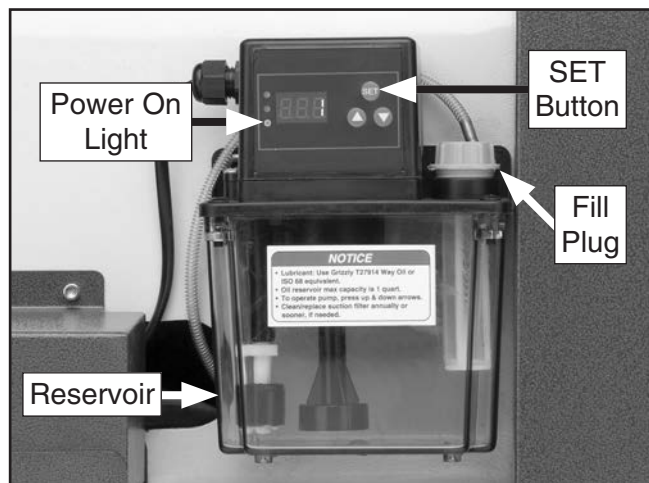

Figure 73. Oiler system control components.
The Model G0932 linear guide rails and ball screw require regular lubrication to perform properly. The oiler system (see **Figure 73**) on the rear of the gantry pumps oil to these components.
1. Fill oiler reservoir with 1 quart of T27914 machine oil or ISO 68 equivalent and turn router **ON** (see **Figure 73**).
2. Press and hold SET button on oiler until an audible beep is heard (see **Figure 73**).